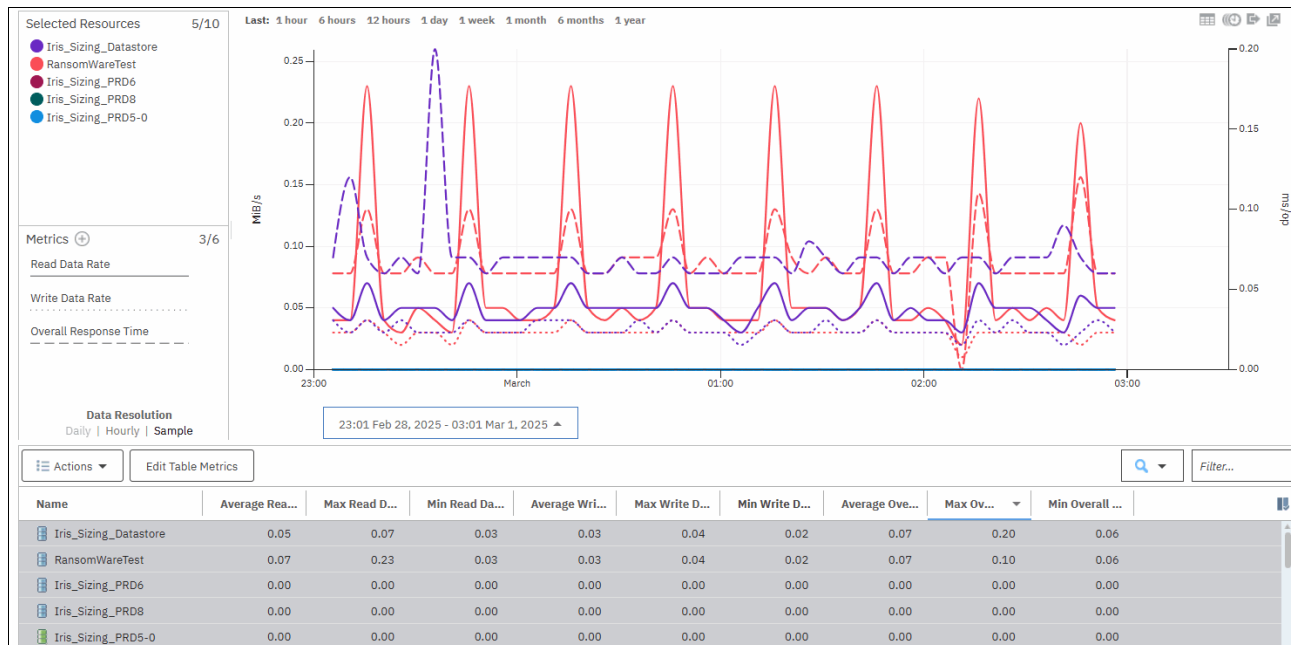

Figure 7-7 Volume performance
- Now, view the volume performance, specifically the write data rate and response time to see whether any of the volumes were affected for the host. Figure 7-7 on page 160 shows the volume performance for the volumes on this host. The table in the figure is used to sort the volumes for the highest write data rates, and then those volumes are added to the chart. The data shows the write data rate and write response times for the busiest volumes. No correlation was found between the write data rate to any individual volume and the observed write data rate spike on the node. Therefore, you can conclude that the node's aggregate write data rate across all volumes caused the alert.